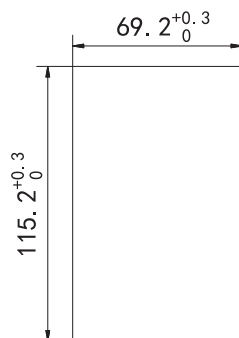

Figure 6.1b) Figure of operation panel installation (cabinet door cut-out)
6.4.2 Figure 6.1b): Dimension drawing of operation panel installation i.e. cabinet door cut-out. The operation panel can be directly installed on the cabinet door.